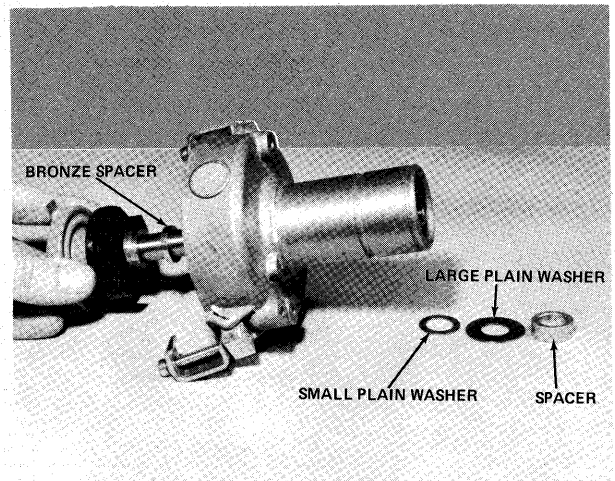

Figure 4 - Removing Distributor Shaft
- Remove two (2) bolts securing distributor bracket to powerhead and remove distributor from powerhead.
- Remove spacer, large plain washer and small plain washer from pulley end of distributor shaft. Pull distributor shaft from distributor housing and remove bronze spacer from same. See figure 4.